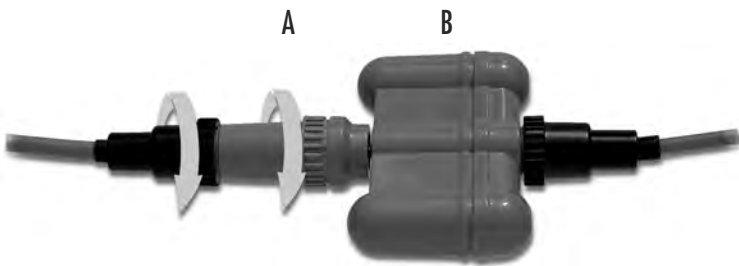

FIGURE S1
The Floating Swivel is designed to prevent cable twisting and tangling by providing a free spinning conduit that rotates 360° in both directions, while maintaining electrical continuity. The Floating Swivel will glide on the surface of the water as the cleaner moves around the pool. As tension builds in the cable, the outer, cylindrical portions of the swivel will keep the float stable allowing the front portion of the swivel to rotate, releasing the tension that has been generated by the cleaner's movement (See Figure S1).
The short cord (from cleaner to swivel, 8') will need to be connected to the small end of the swivel (A). The long cable (from the swivel to the power supply, 40' or 50') will need to be connected to the large end of the swivel (B) as seen in Figure S1.